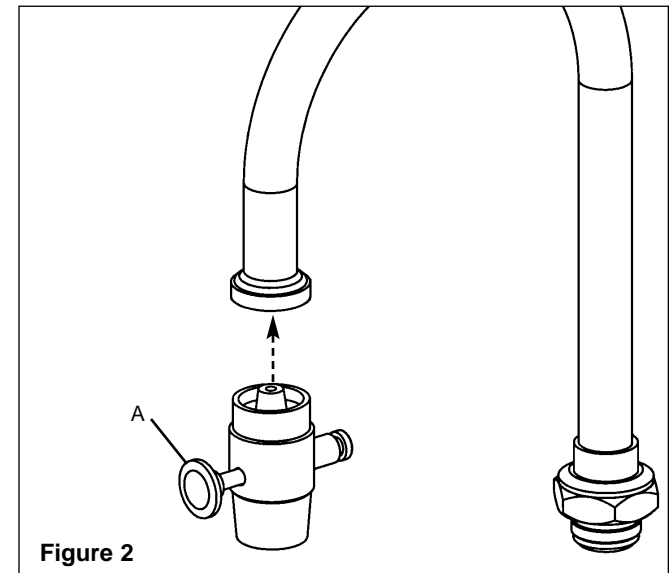

Figure 2
2. Screw the Faucet Mount Eyewash adapter onto the faucet and tighten with a wrench (see Figure 2). Actuator Pin (A) must be facing front, toward the user.